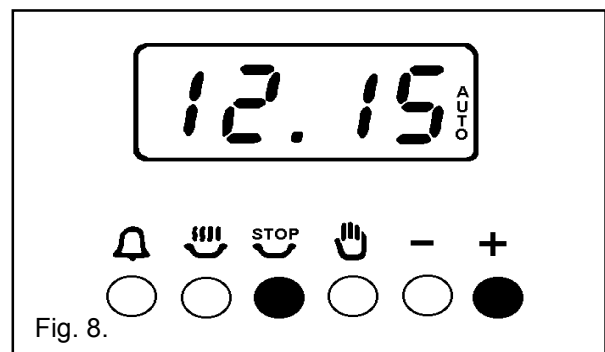

Fig. 8.
- v) Set the STOP time. Press the stop time button (🛑) press the increase control (+) until the required stop time is displayed, e.g. 12.15 p.m. as Fig. 8.